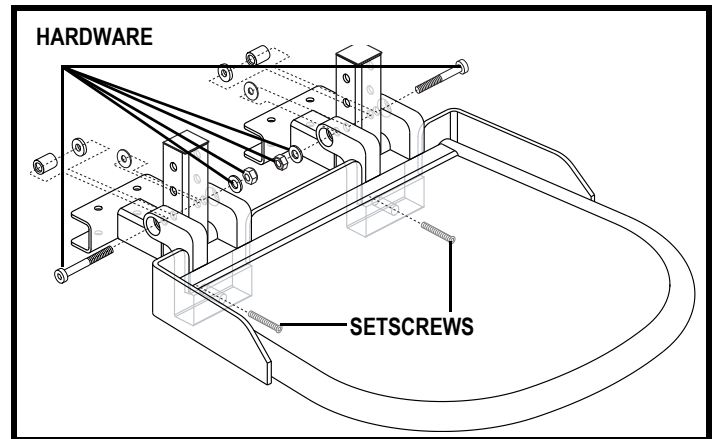

Figure 15. Foot Platform Adjustment
1. Remove the hardware from the foot platform bracket. See figure 15.
You can adjust the angle of the foot platform with a hex key. See figure 15.